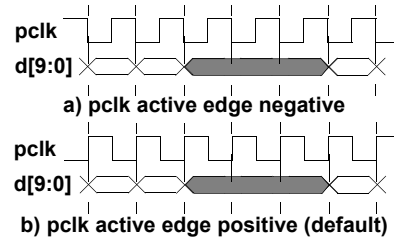

Figure 41. pclk in Free Running Mode
- In free running mode, (the *PixClkMode* bit of DVBUSCONFIG1 register is set to a logic 0), the pixel clock output pin, **pclk**, is always running with a fixed period. Pixel data appearing on the digital video bus **d[9:0]** are synchronized to a specified active edge of the clock as shown in Figure 41.